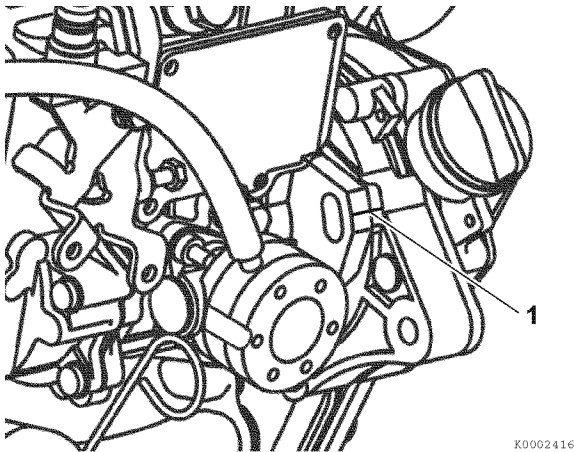

Figure 7-24
6. Align the reference marks (Figure 7-24, (1)) made during disassembly on both the fuel injection pump mounting flange and gear case. If installing a replacement fuel injection pump, align the manufacturer-applied mark on the pump mounting flange with the mark made on the timing gear cover.